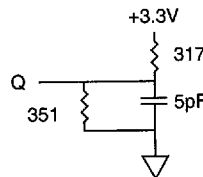

Fig. 2 OUTPUT LOAD EQUIVALENT
- Output loading is specified with  $C_L = 5pF$  as in Fig. 2. Transition is measured  $\pm 500mV$  from steady state voltage.
- The load used for  $V_{OH}$ ,  $V_{OL}$  testing is shown in Fig. 2. AC load current is higher than the shown DC values. AC I/O curves are available upon request.